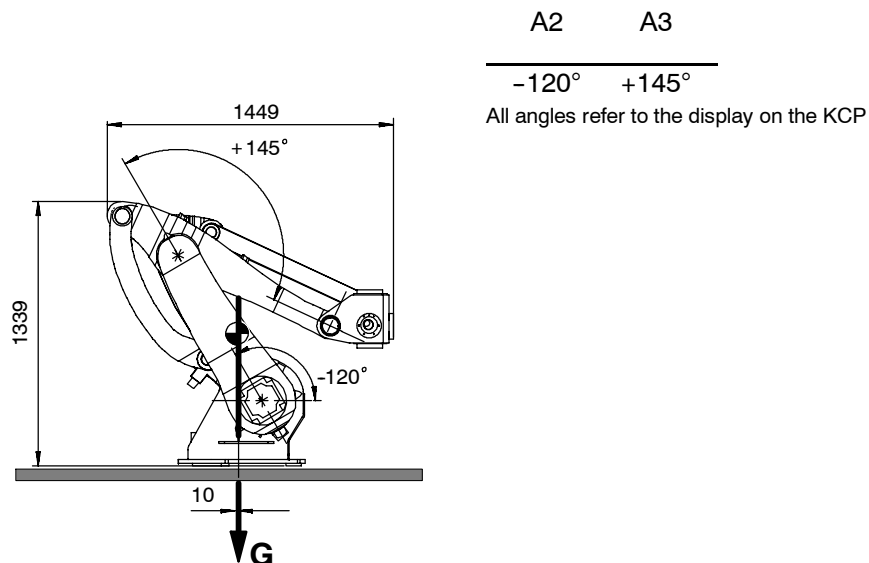

Fig. 31 Transport position
- (2) Put the robot into operation and move it into the transport position (Fig. 31).